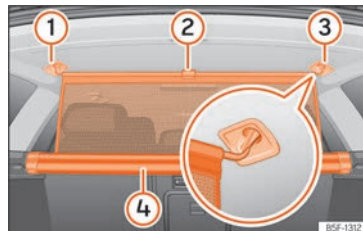

Fig. 139 In the luggage compartment: securing the net partition.
- Pull up handle »» Fig. 139 ② to remove the net from the casing ④.
- Hook in the net partition on the right or left side ③ (magnified image).
- Hook in the net partition into the housing on the other side ① by pulling the rod.